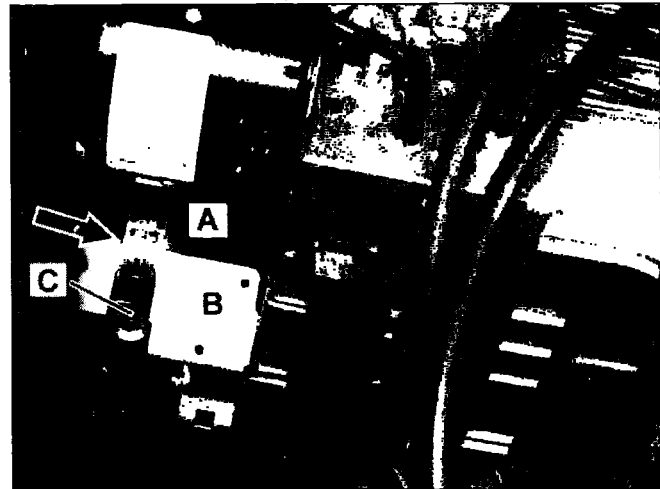

Figure 18
- Position mounting bracket (B) onto SBC hydraulic unit (A) as shown in Figure 18.
- Ensure mounting bracket (B, Figure 18) is flush with SBC hydraulic unit (A).
- Torque mounting clamp screw (C) to 5 Nm while pressing bracket (B) onto SBC unit (A).